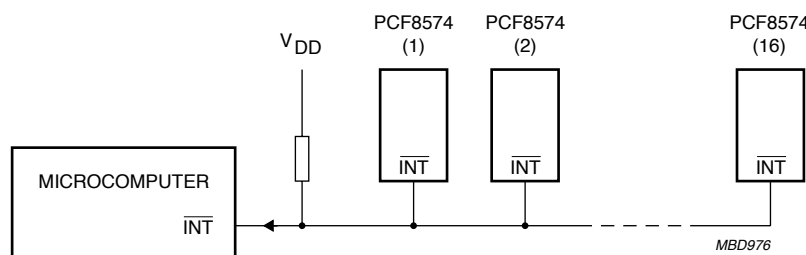

Fig.12 Application of multiple PCF8574s with interrupt.
7.2 Interrupt (see Figs 12 and 13)